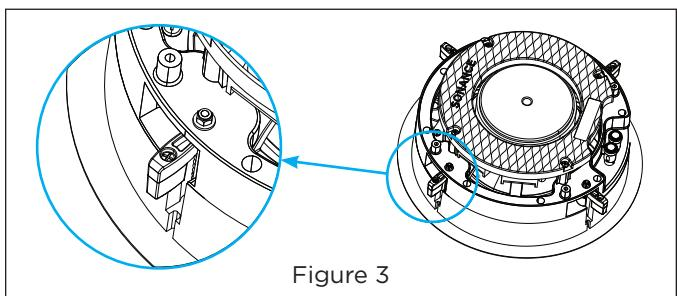
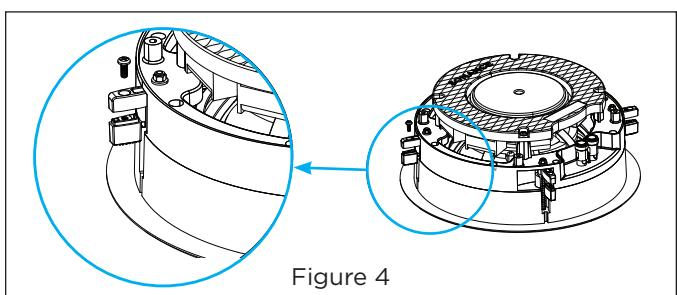

Figure 3
Figure 4
**NOTE: The Roto-Lock system can accommodate a wall material thickness of 1.52" (38.5mm) with the toggle foot cap removed the system can accommodate a wall material thickness of 1.97" (50mm). To remove the clamp feet, use a small screwdriver to gently release the locking levers (see Figure 3). Then remove the feet from the clamps (see Figure 4).**